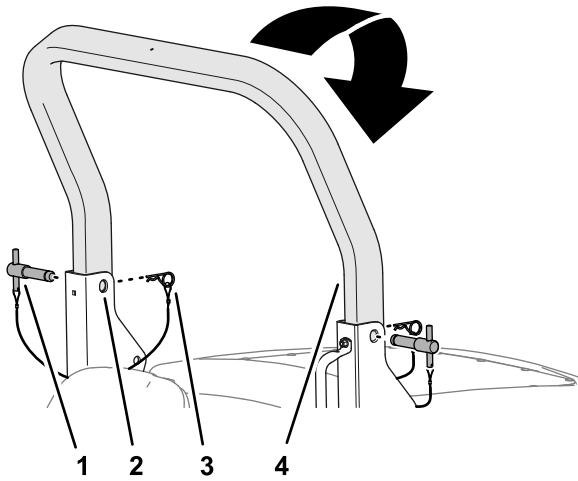

Figure 21
2. Remove the hairpins from the roll-bar pins in the pivot brackets of the lower roll-bar frame (Figure 21).
3. While supporting the weight of the upper roll bar, remove the roll-bar pins from the pivot brackets (Figure 21).